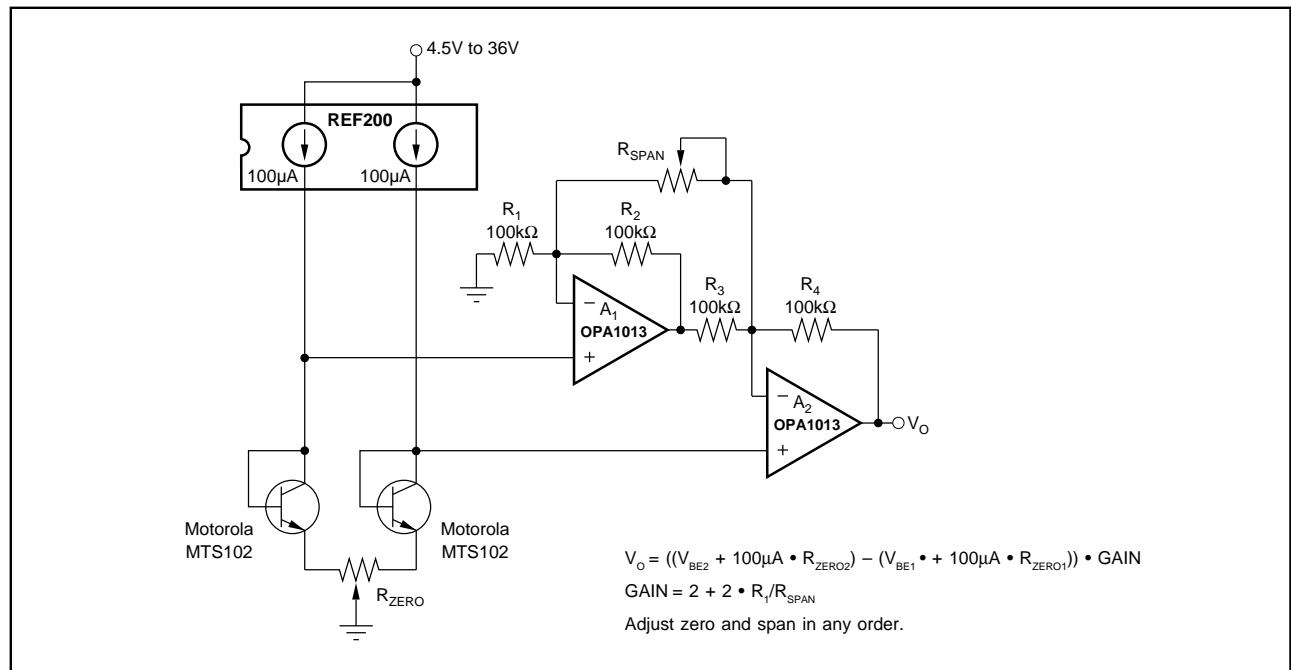

Figure 5. Differential Temperature Measurement Circuit.
For differential temperature measurement, use the circuit shown in Figure 5. In this circuit, the differential output between two temperature sensing diodes is amplified by a two-op-amp instrumentation amplifier (IA). The IA is formed from the two op amps in a dual OPA1013 and resistors R_1 , R_2 , R_3 , R_4 , and R_{SPAN} . R_{SPAN} sets the gain of the IA. For good common-mode rejection, R_1 , R_2 , R_3 , and R_4 must be matched. If 1% resistors are used, CMR will be greater than 70dB for gains over 50V/V. Span and zero can be adjusted in any order in this circuit.
The following relationships can be used to calculate nominal resistor values for the Figure 5 circuit.